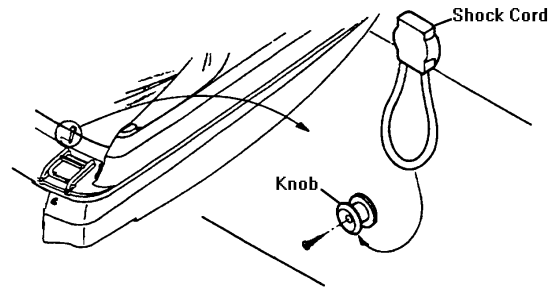

Figure L1: Shock Cords
10. Attach shock cords to knobs along the stern as shown in Figure L1. Be sure canvas is centered on stern.